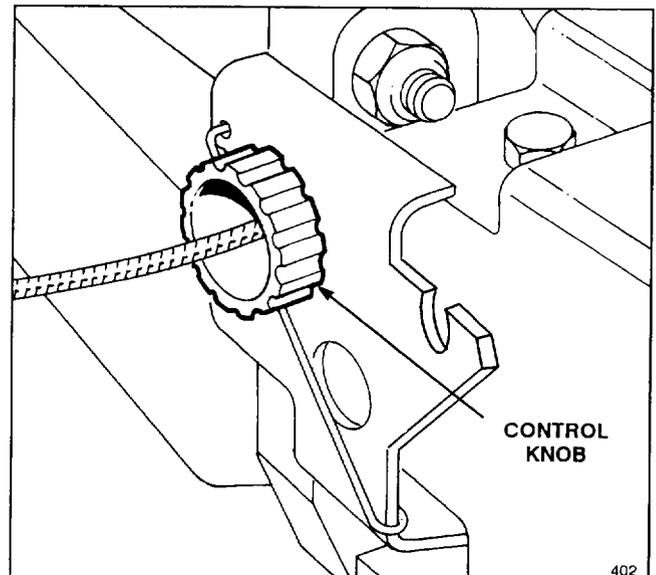

Figure 20
1. ADJUSTMENT (Fig. 20)—Rotate control knob clockwise $\frac{1}{2}$ turn if mower does not self-propel. If mower creeps forward, rotate knob $\frac{1}{2}$ turn counterclockwise to loosen belt.